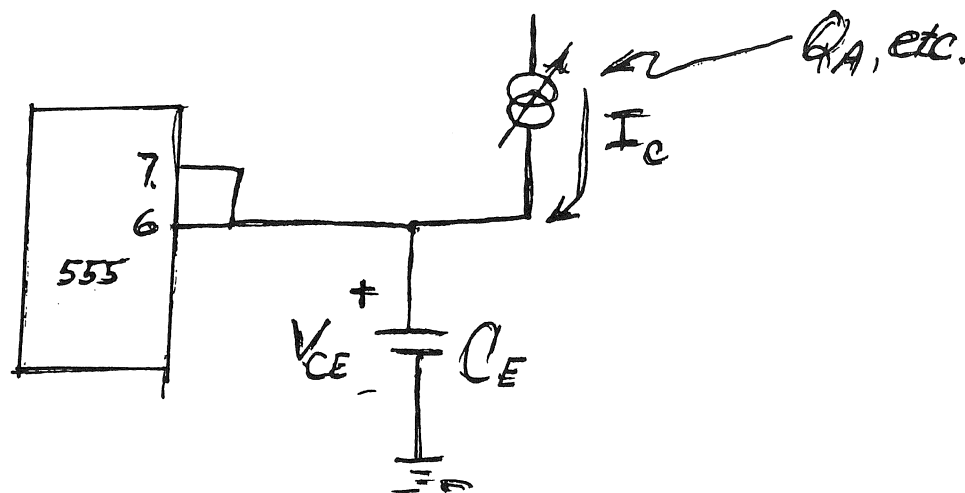

FIGURE 3-11
3.4.6.4 Pulse Width Modulation - To understand the operation of the PWM Circuit (555), let us assume that at time zero ($T(0)$) the capacitor is at zero volts and the discharge transistor within E(2) (555) is ON. Pins 6 and 7 (threshold and discharge) are both tied to C(E) so the current from Q(A) is bypassed to ground and V(CE) stays at Zero (see Figure 3-11).